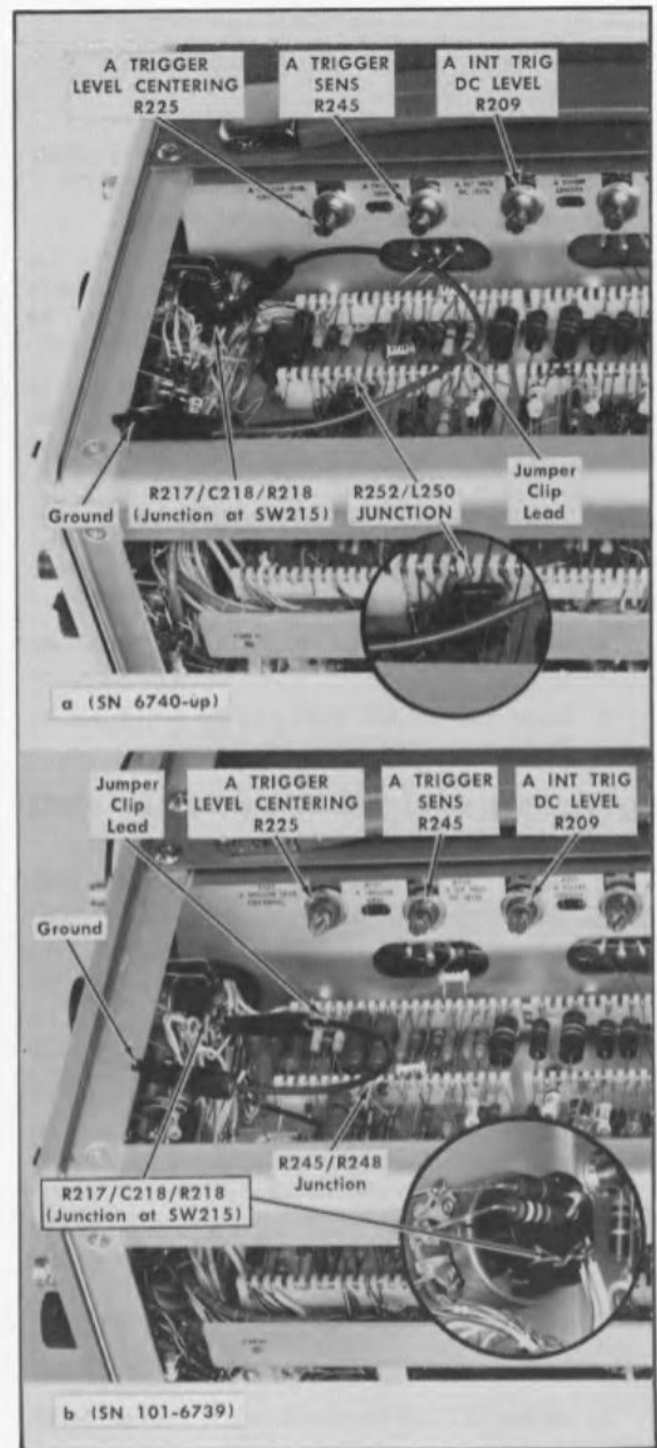

Fig. 5-6. A Trigger clip-lead connections, adjustment and test point locations.
- Adjust A INT TRIG DC LEVEL R209 (see Fig. 5-6) to obtain a stable display. (With the A SLOPE switch set to +, the sweep trace should start on the positive-going rise of the calibrator waveform.)